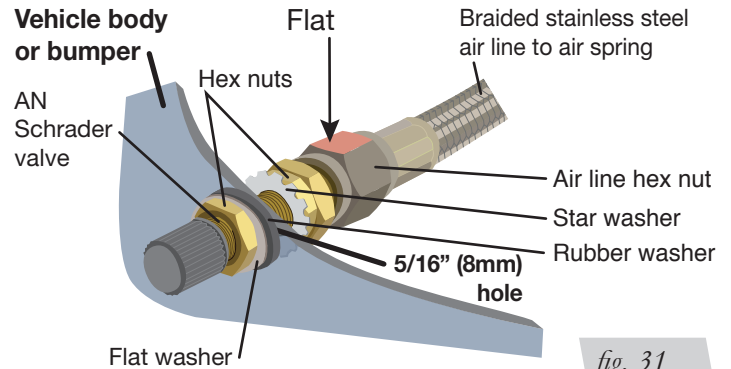

fig. 31
2. Tighten the air line hex nut finger tight, then use 2 wrenches to turn 1 additional flat (1/6 of one full turn). **Do not overtighten** (figs. 31 or 32). The easiest way to tighten the fitting is off the vehicle. Install the Schrader valve in the chosen location.